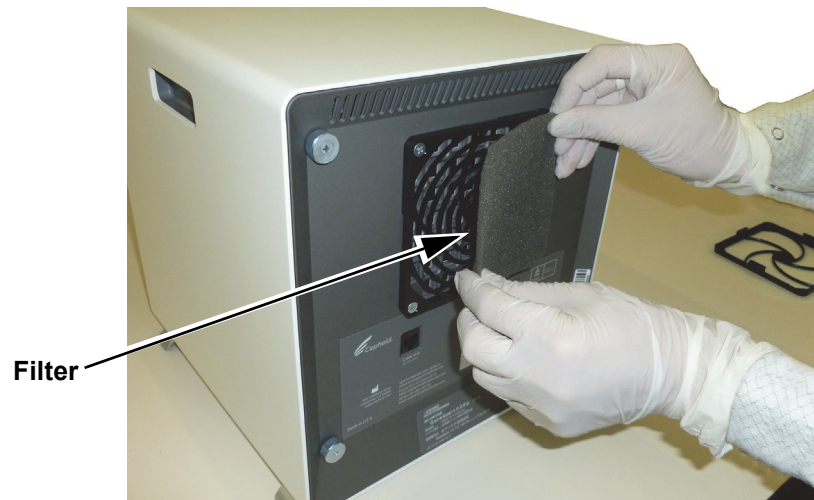

Figure 9-10. GeneXpert GX-IV Filter Removal
5. Remove the dirty filter for cleaning. See Figure 9-10.